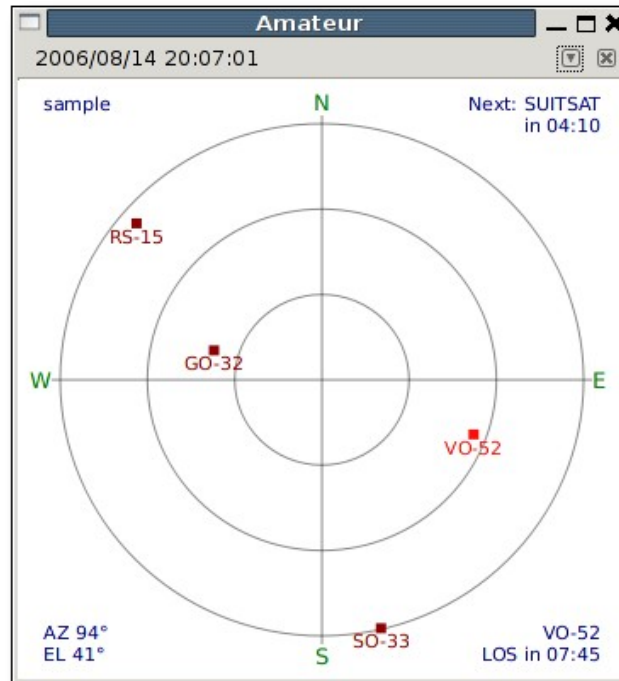

Figure 4.3: The polar view.
as seen from the ground station with the centre of the graph corresponding to looking straight overhead. Figure 4.3 shows a screen capture of the polar view in gpredict as it looks using the default settings.
The satellites that are plotted on the polar view are selectable. If you left click on a satellite it becomes selected (changes colour) and the remaining in-range time for the selected satellite will be displayed in the lower right corner of the polar view. The selected satellite on figure 4.3 is VO-52 and it will get out of range (i.e. go below the horizon) in 7 minutes and 45 seconds.
- **QTH Info:** Checking this box will show the name of the ground station in the upper left corner of the polar view. The polar view on figure 4.3 shows *sample*, since this is the name of the default ground station.
- **Next Event:** Checking this box will show in the upper right corner which satellite will come up next as when it will come up. The time is shown as a countdown to the event. Figure 4.3 shows that the next satellite will be SUITSAT and that it will come up in 4 minutes and 10 seconds. Please note that the countdown is not necessarily updated in real-time. Actually, it is only updated every time the polar view is refreshed, see description of refresh rates in section 2.3.3 - Module Properties.